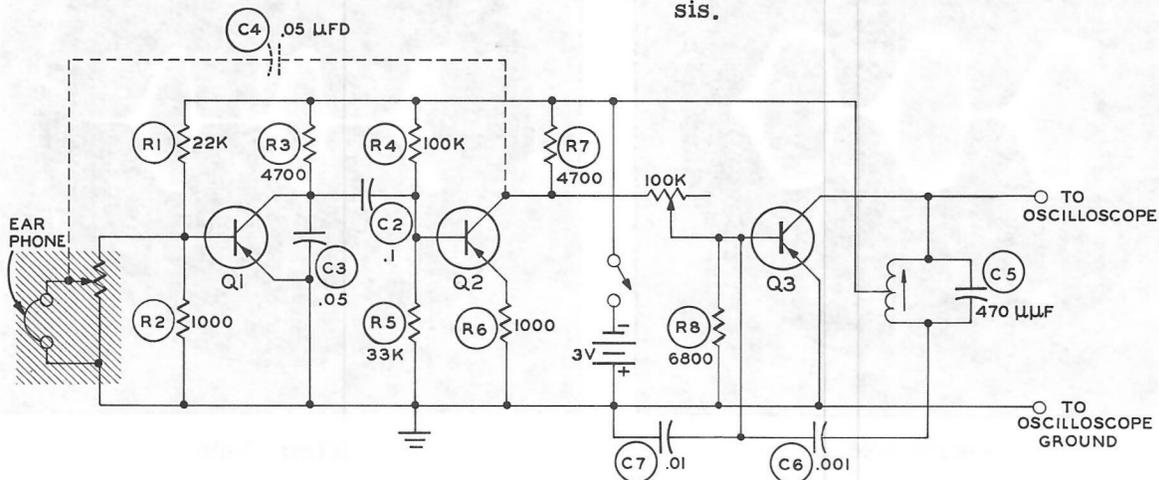

Figure 3-99
Refer to Figures 3-99 and 3-100 for the following steps.
- () Connect one lead of the earphone to lug 3 of terminal strip B and the other to lug 1 of terminal strip D. The circuit diagram is shown in Figure 3-99.